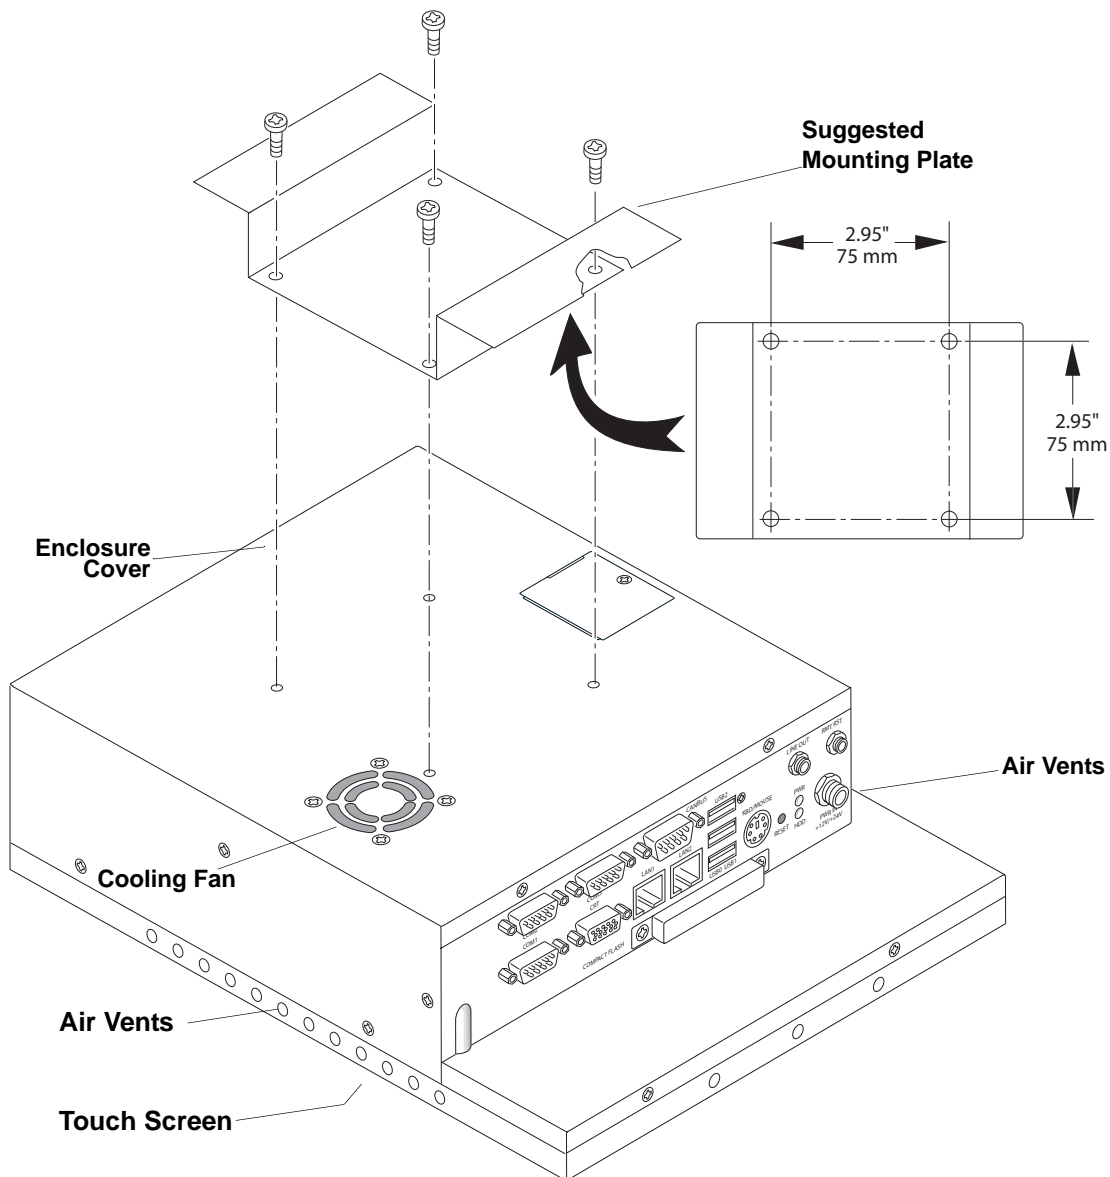

Figure 1-2. Angle View of Enclosure with Mounting Hardware
- Install the mounting hardware for surface or wall mounting to the bottom of the ReadyPanel. See Figure 1-2.